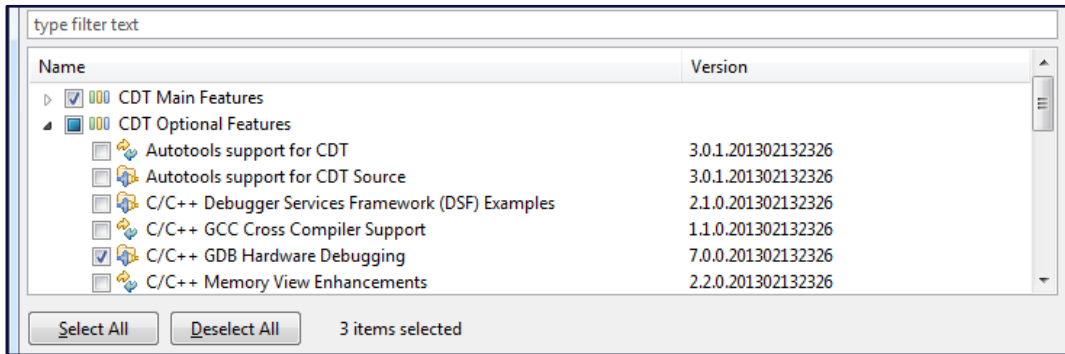

Figure 8: New software selected
3. Check CDT Main Features and GDB Hardware Debugging (Figure 8).